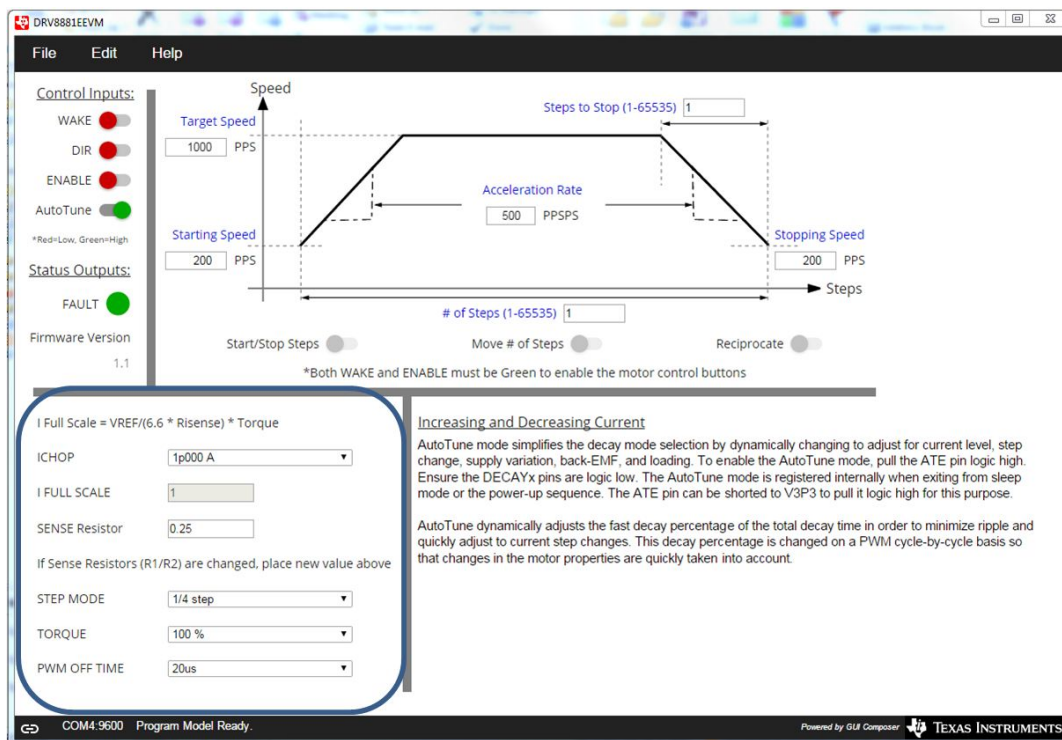

Figure 3. Initial GUI Screen
7. Configure the current settings, step mode, torque, and PWM off-time as desired, as shown in Figure 3. Note that the *Decay Mode* selection is available only when AutoTune is disabled.